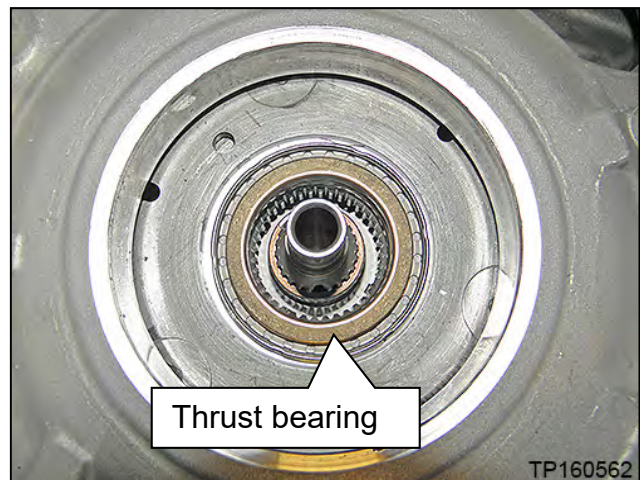

Figure 84
64. Remove the thrust bearing from the planetary carrier plate (Figure 84).